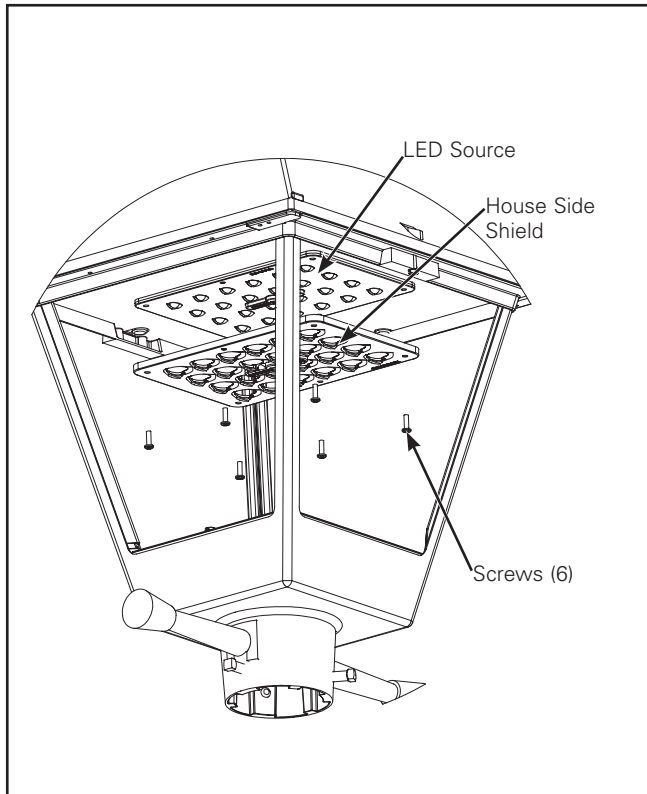

Figure 6.
2. Install house side shield with provided #8 X 1/2" Phillips screws. Tighten until house shield is snug. Do not over tighten. (Figure 6.)